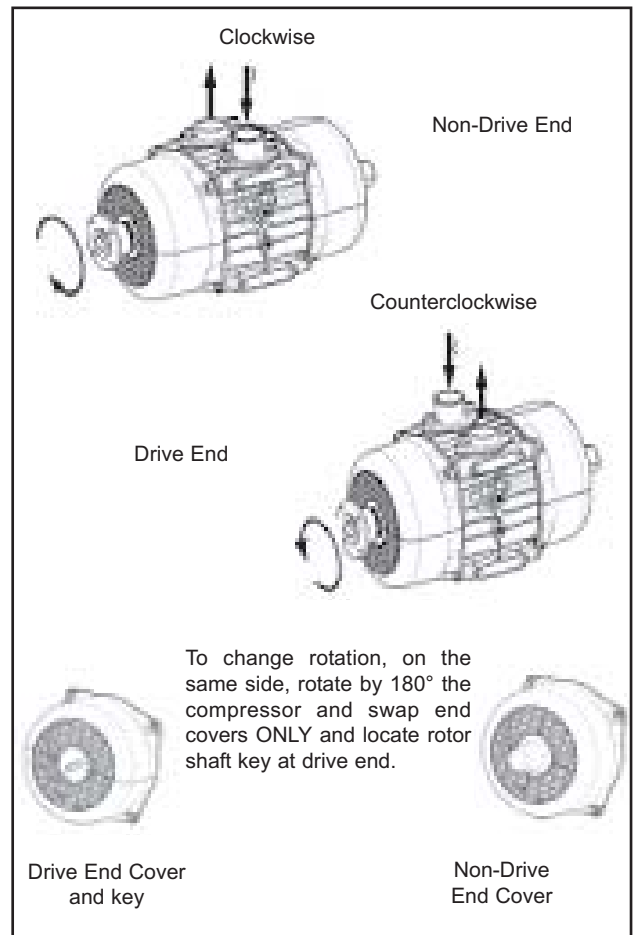

Figure 2
2. The compressor can be driven from either end, however the drive shaft MUST always be horizontal +/- 5°. See Figure 2.